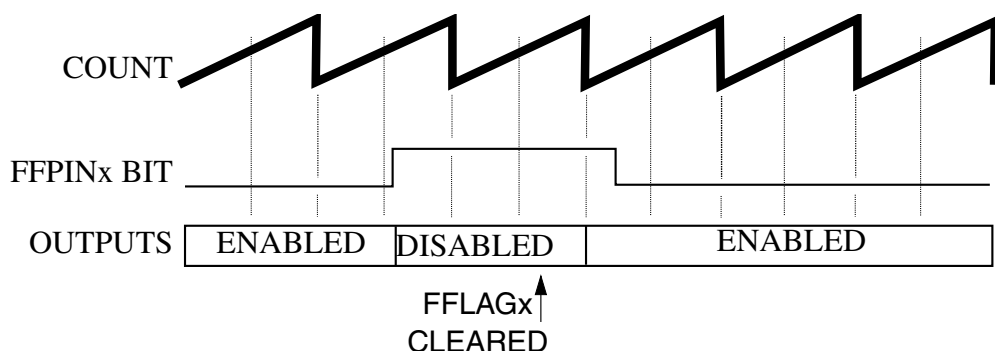

Figure 26-30. Manual fault clearing (FCTRL[FSAFEx] = 0, FSTS[FFULLx] = 1)
- The pins are enabled when the next PWM full or half cycle begins regardless of the logic level detected by the filter at the FAULTx pin, as shown in Figure 26-30. If FSTS[FFULLx] is set, then the disabled PWM pins are enabled at the start of a full cycle. If FSTS[FHALFx] is set, then the disabled PWM pins are enabled at the start of a half cycle.